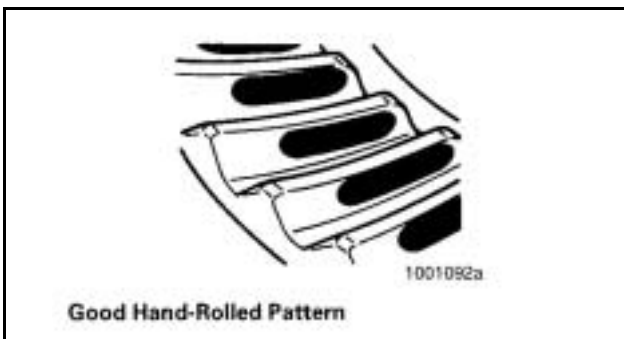
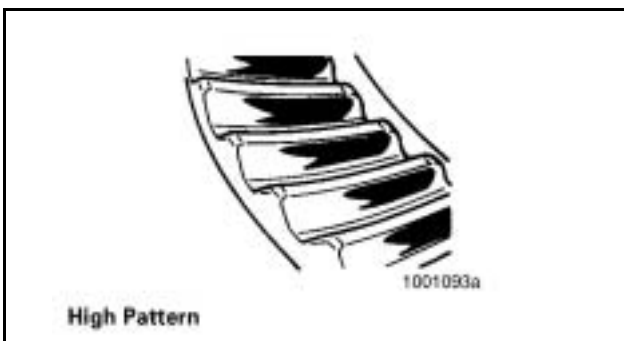
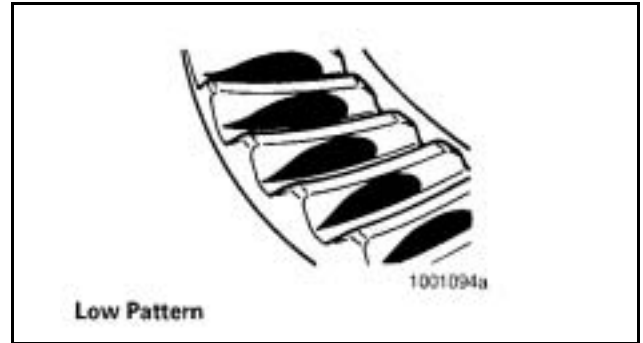
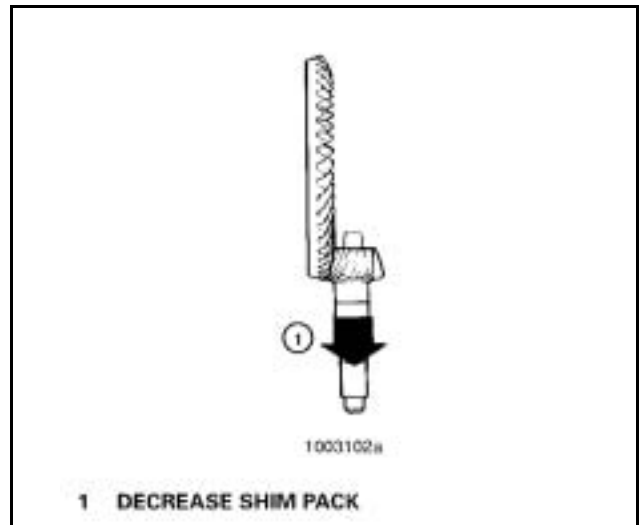

Figure 115
Figure 116
Figure 117
Figure 119
4. Look at the contact patterns on the ring gear teeth. Compare the patterns to **Figure 115**, **Figure 116**, and **Figure 117**.
- toward the toe of the gear tooth and in the center between the top and bottom of the tooth. Refer to **Figure 115**.
- b. To correct a high contact pattern, **Figure 116**, decrease the thickness of the shim pack under the bearing cage. When decreasing the thickness of the shim pack, the drive pinion will move toward the ring gear. **Figure 119**.